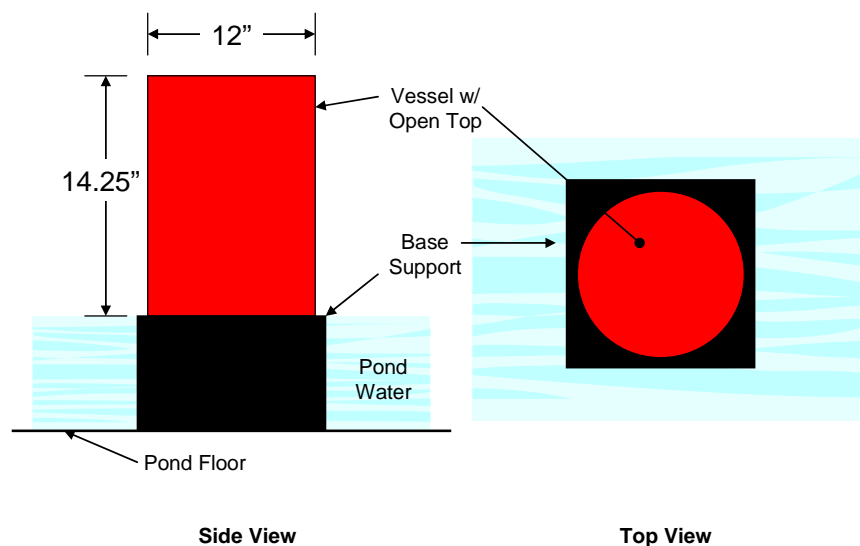

Figure 2: Base detail
- The top portion of each Base will incorporate a 5 gallon vessel with an open top. The base of the vessel will be positioned at approximately water level. Vessels will be cylindrical, with a diameter of 12 inches and a height of 14.25 inches. See Figure 2.